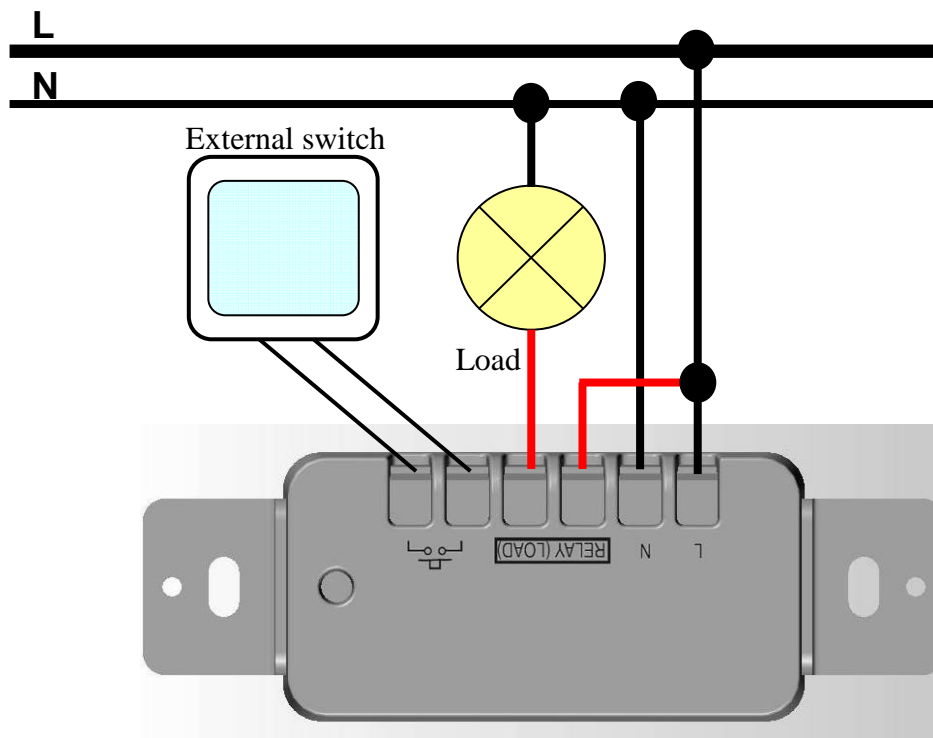

Figure 1
**Step 2** **Identifying your wiring application:** refer to figure 1
**Step 3** **Connecting wires:** refer to figure 1 and connect the wires with correct symbols. Use at less 75°C copper wire only and the stripped wire end's length must be 9mm. The tightening torque must be 3.5lb-in. (Make sure all wires are firmly fixed at all terminals)
(Important: The relay terminals **MUST** be connected to L and Load as Figure 1)